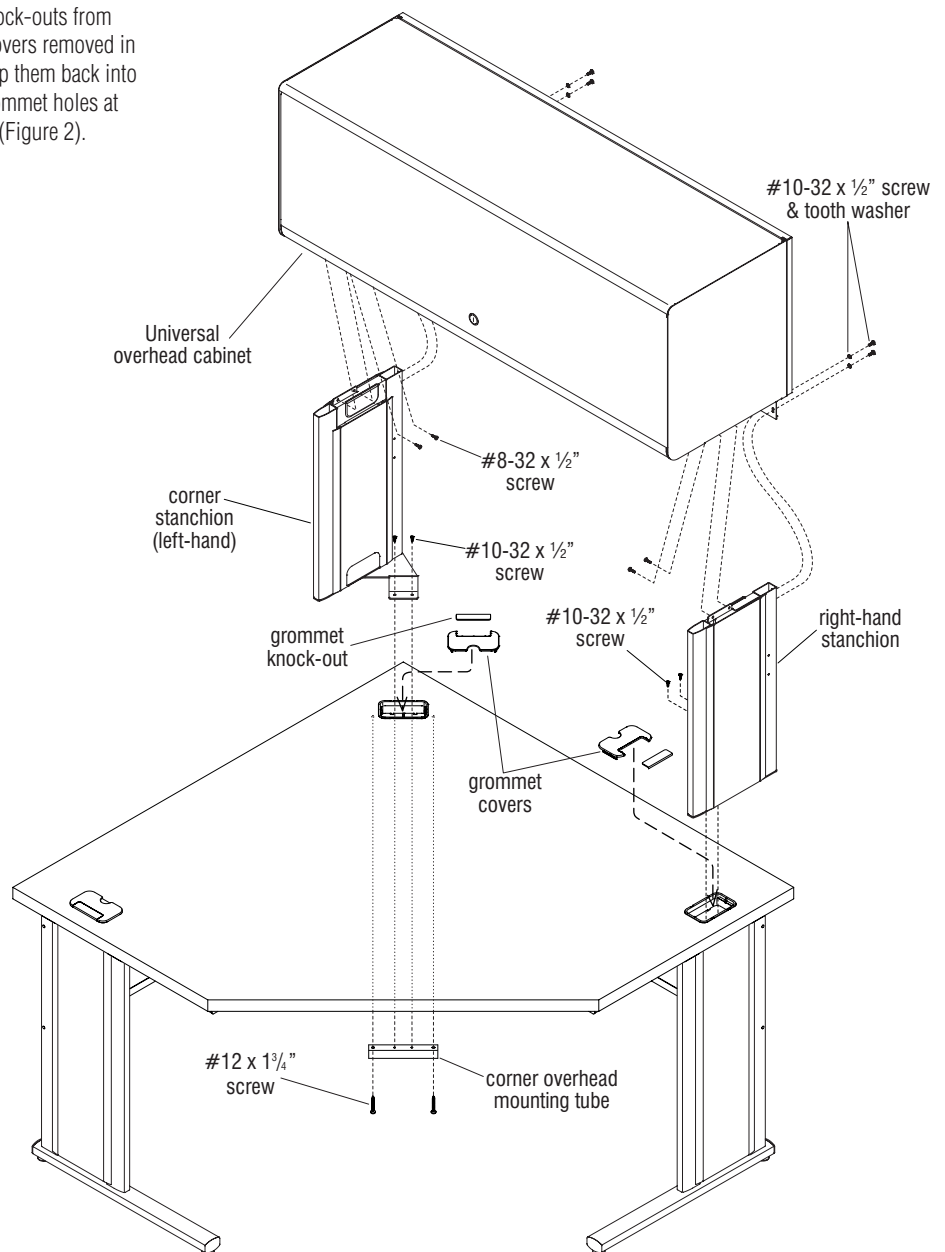

Figure 2
7. Remove the knock-outs from the grommet covers removed in step 1, and snap them back into place in the grommet holes at the stanchions (Figure 2).